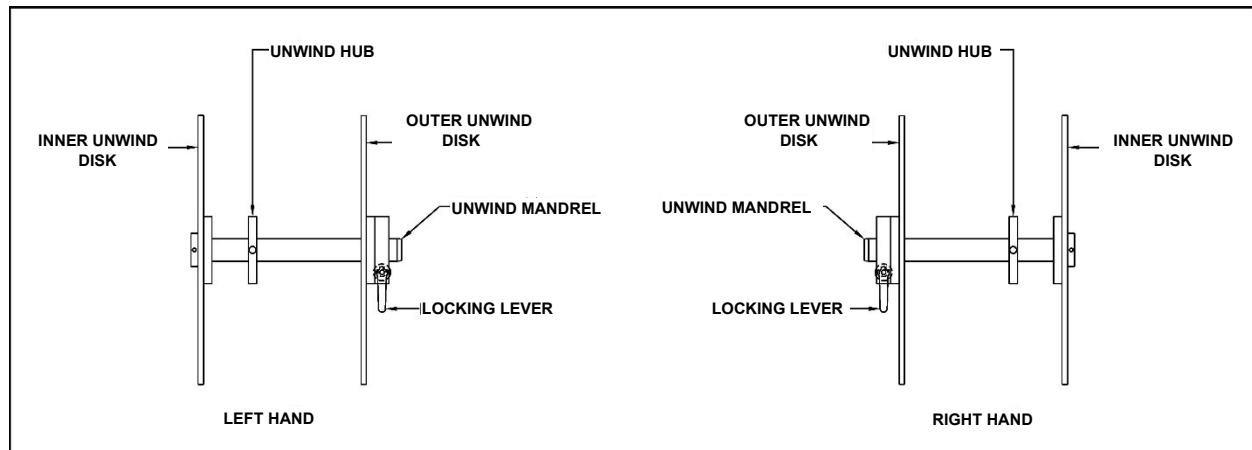

Figure 8 Unwind Disks
2. Slide the inner unwind disk onto the unwind mandrel (hub facing out) until the disk is against the unwind disk. Refer to Figure 8.